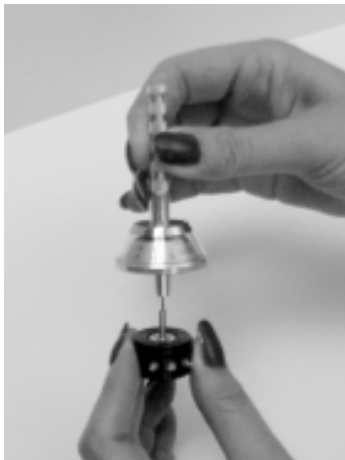

Figure 1.
4. Insert, but do not “bottom”, the Torque Watch drive shaft in mating plate on chuck and turn the knurled shaft on the Torque Watch. When shaft of test piece moves, read torque value on the Torque Watch scale. See Figure 1.